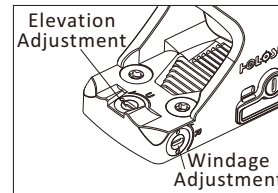

Fig 7
- 3) Adjustment can be performed by inserting the flat tipped end of the included tool into the turret slot and rotating, See Fig 7.